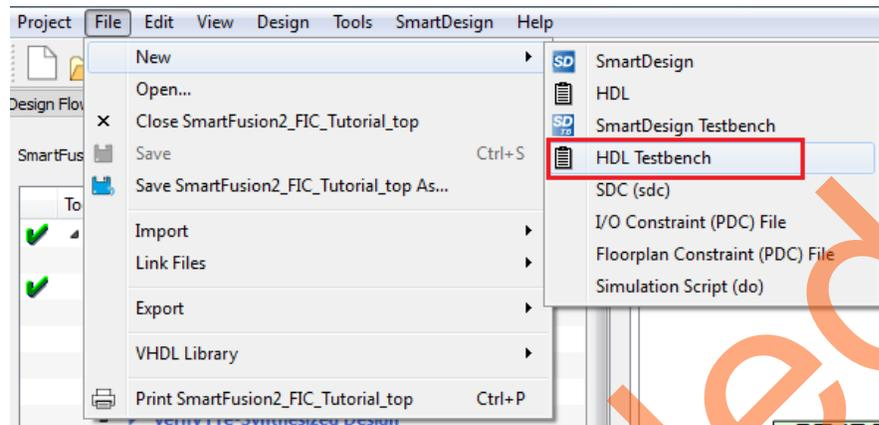

Figure 24 • HDL Testbench
1. From the **File** menu, select **New > HDL Testbench** as shown in Figure 24.